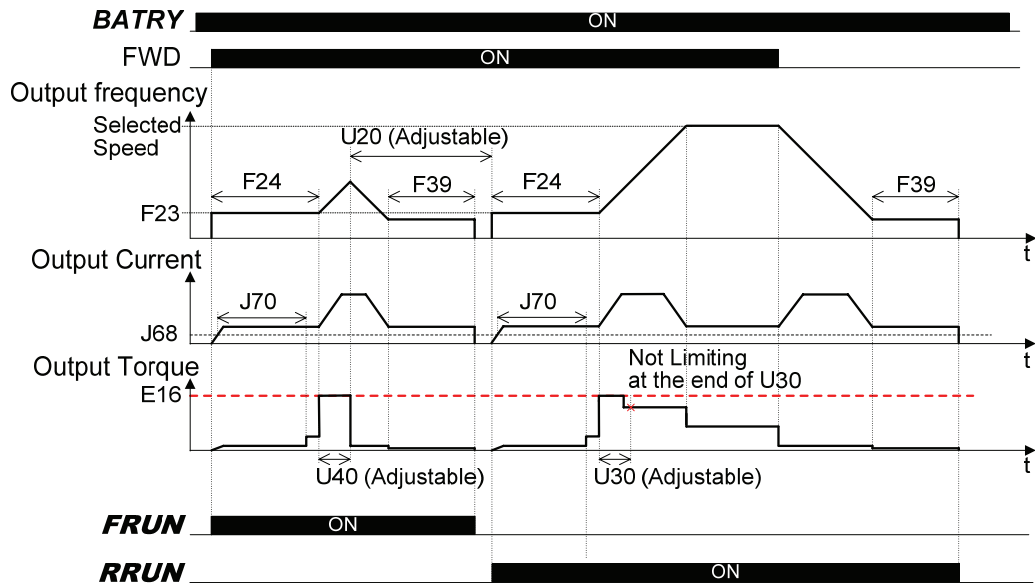

Figure 2: Behaviour when torque limit is reached in FWD but no REV direction
- If, during REV movement, the output torque limit previously defined is not reached then the inverter keeps the motor turning until the input is set to OFF again, as depicted in figure 2.